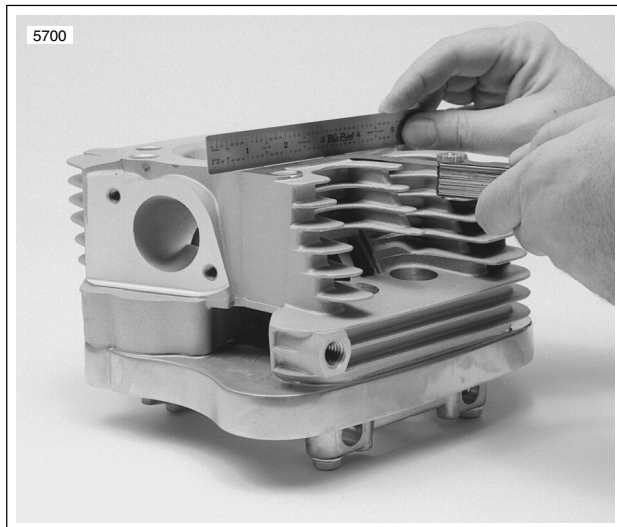

**Figure 3-16. Checking Spring Free Length**
16. See Figure 3-16. Check free length and compression force of each spring. Compare with SERVICE WEAR LIMITS. If spring length is shorter than specification or if spring compression force is below specification, replace spring.